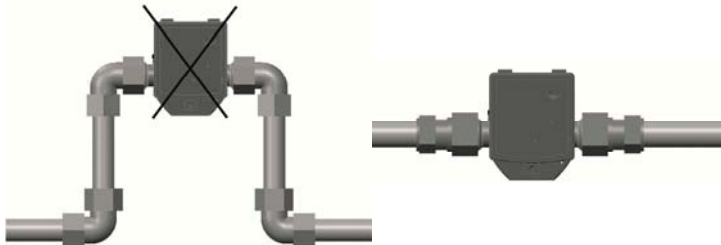
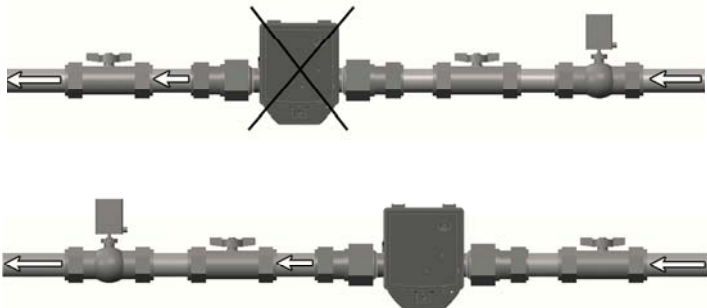

Fig. 2: Avoid accumulation of air
Fig. 3: Mount a valve or a regulator after the flow meter
- Fit the flow meter vertically or horizontally between two slide valves so that the arrow on the housing and the flow direction match. Also observe the installation situations and the following examples of installation (see figure 2 and figure 3).